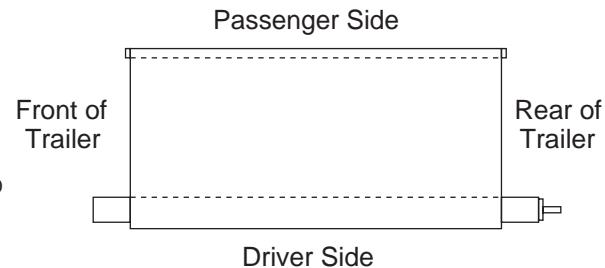

Figure 14
1) See Figure 14. Place the tarp assembly (1) on top of the trailer tub bulkheads. The long adapter shaft is positioned toward the swing-arm end of the trailer.